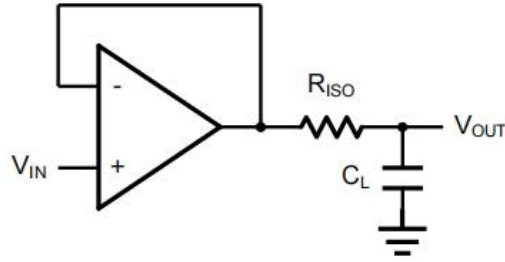
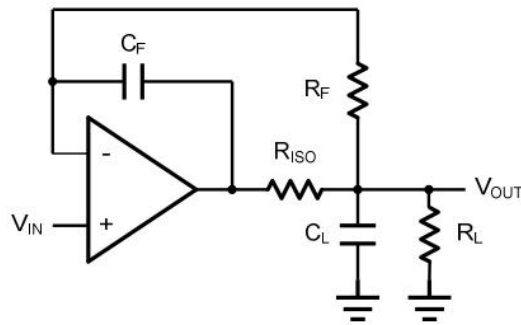

Figure 2. Indirectly Driving a Capacitive Load Using Isolation Resistor
Figure 3. Indirectly Driving a Capacitive Load with DC Accuracy
The OPA374/2374/4374 family is optimized for bandwidth and speed, not for driving capacitive loads. Output capacitance will create a pole in the amplifier's feedback path, leading to excessive peaking and potential oscillation. If dealing with load capacitance is a requirement of the application, the two strategies to consider are (1) using a small resistor in series with the amplifier's output and the load capacitance and (2) reducing the bandwidth of the amplifier's feedback loop by increasing the overall noise gain. Figure 2. shows a unity gain follower using the series resistor strategy. The resistor isolates the output from the capacitance and, more importantly, creates a zero in the feedback path that compensates for the pole created by the output capacitance.
The circuit in Figure 3 is an improvement to the one in Figure 2. R_F provides the DC accuracy by feed-forward the V_{IN} to R_L . C_F and R_{ISO} serve to counteract the loss of phase margin by feeding the high frequency component of the output signal back to the amplifier's inverting input, thereby preserving the phase margin in the overall feedback loop. Capacitive drive can be increased by increasing the value of C_F . This in turn will slow down the pulse response.